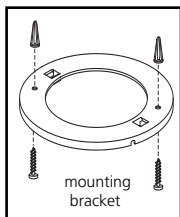
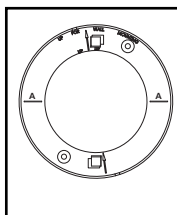

FIGURE 5
FIGURE 6
3. After selecting the proper smoke alarm location as described in section 1, attach the mounting plate to the ceiling as shown in figure 5. For wall mounting see figure 6. Place mounting plate on the wall as described in the mounting illustrations. Use the screws and anchors provided to secure the mounting plate (use 3/16" drill bit for anchor holes).